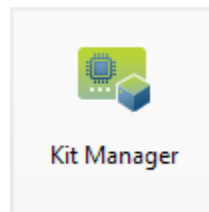

Figure 9. Kit Manager Tile
9. If you plan to work with NCP software communicating with a host MCU/PC, you should upgrade your WSTK board controller firmware to build 435 or later. Click the Kit Manager tile in the Simplicity perspective (Figure 9) and click **[Yes]** in the confirmation dialog.